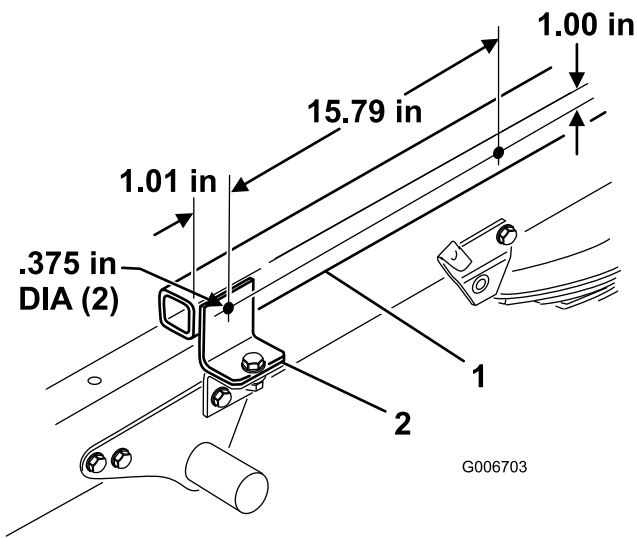

Figure 18
1. Using dimensions shown in Figure 18, locate, mark and drill (2) .375 (3/8)" diameter holes, thru both walls, of each H.D. Hitch Frame Tube.